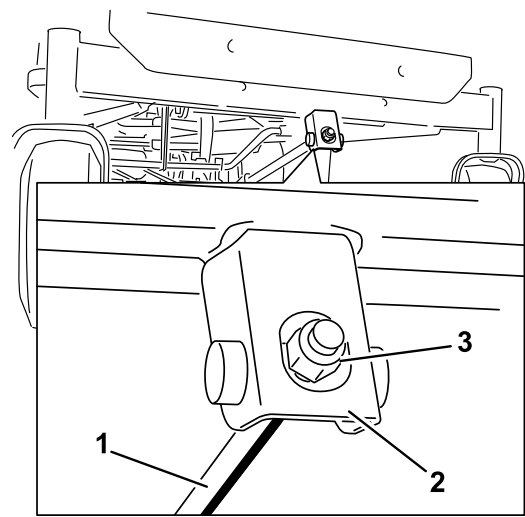

Figure 69
6. To adjust the front-to-rear blade slope, rotate the adjustment nut in the front of the mower (Figure 69).